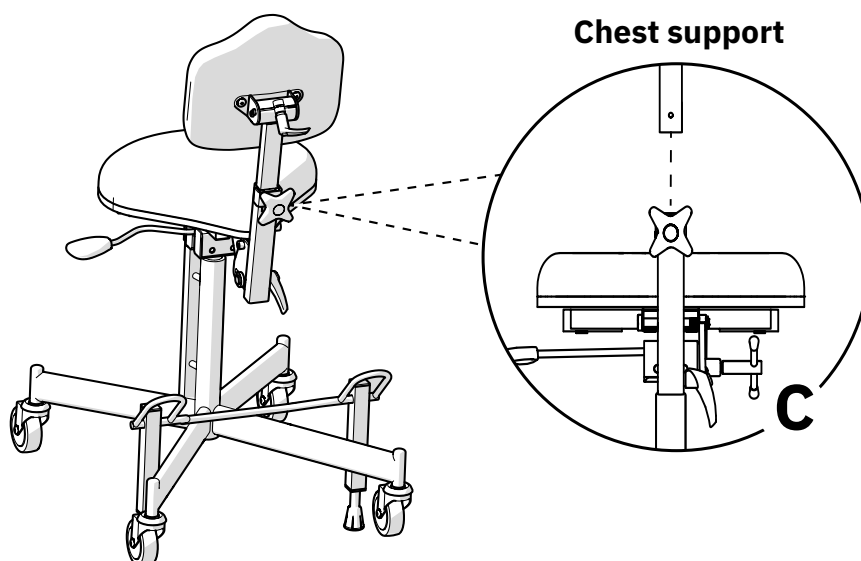

Figure 2.2. Preparations before starting to use models with chest support.
For models with chest support, insert the chest-support pole into the chest support mechanism (C) and adjust to the desired height (see Figure 2.2). Tighten all controls (C).